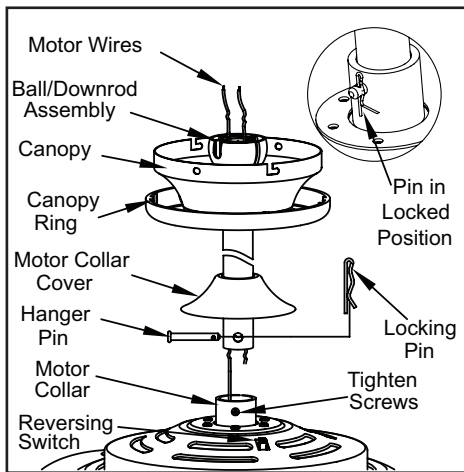

Figure 7
3. Route the wires exiting the top of the fan motor through the decorative motor collar cover then the canopy ring. Make sure the slot openings are on top. Route the wires through the canopy and then through the ball/downrod assembly (Figure 7).
5. Align the holes at the bottom of the downrod with the holes in the collar on top of the motor housing (Figure 7). Carefully insert the hanger pin through the holes in the collar and downrod. Be careful not to jam the hanger pin against the wiring inside the downrod. Insert the locking pin through the hole near the end of the bolt until it snaps into its locked position, as noted in the circle inset of Figure 7.
The fan shipped from the factory with the reversing switch positioned to circulate air downward. If airflow is desired in the opposite direction, turn your fan off and wait for the blades to stop turning, then slide the reversing switch (located at the top of the motor housing, refer to figure 7 on page 5) to opposite position, and turn fan on again. The fan blades will turn in the opposite direction and reverse the airflow.